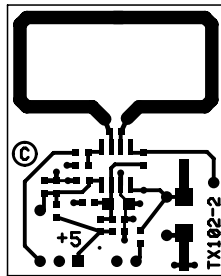

Figure 6
- Note 8.** The MICRF102 was tested to be Compliant to Part 15.209 and 15.231 for maximum allowable TX power, when operated in accordance with a loop antenna described in Figure 6.
The reference design shown in Figure 6. has an antenna meeting this requirement.
Loop antennas are often considered highly directional. In fact small loop antennas can achieve transmit patterns close in performance to a mono-pole antenna. The radiation pattern below is the theoretical radiation pattern for the antenna shown in Figure 6.
The 0 degree plot is the radiation pattern in the plane of the transmitter PCB, the 90 degree plot represents the plane perpendicular to the PCB. Micrel's evaluation of the performance of the board in Figure 6. indicates an even more uniform radiation pattern than the theoretical plot shown here.